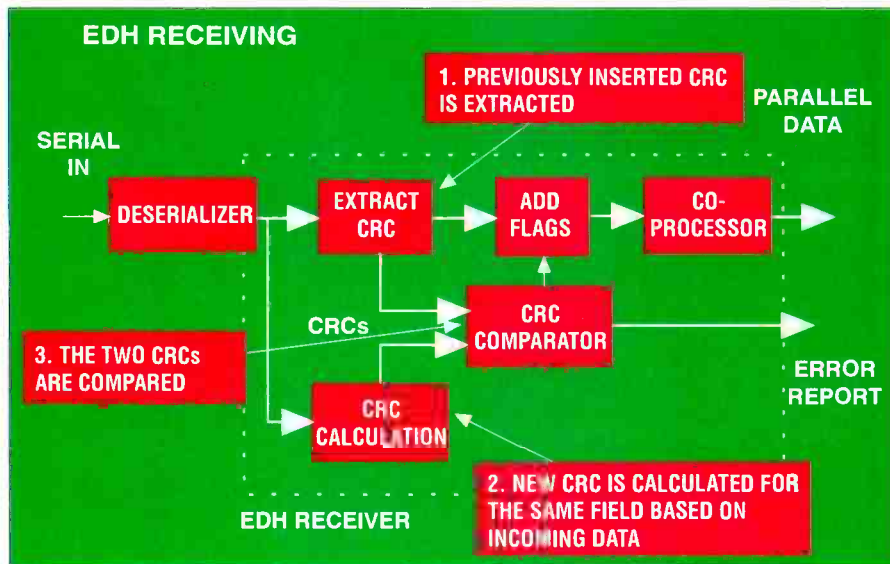

Figure 2. After the previously inserted CRC is extracted from the next serial digital device, a new CRC is calculated.
**Figure 2.** There are three basic topologies for local area networks: bus, ring and star. In addition, the various configurations can be intermingled to create combinations, which allow groups of users to cooperate as independently (and efficiently) as desired, yet still share network resources.
deserialized into parallel data, and the CRC from the previous device is extracted. A new CRC is calculated and compared to the CRC from the previous device. (See Figure 2.) If the comparison fails, then an error is found, and these discrepancies are inserted as flags in the outgoing parallel data. At this point, these discrepancies can be reported to the user. (See Figure 3.)